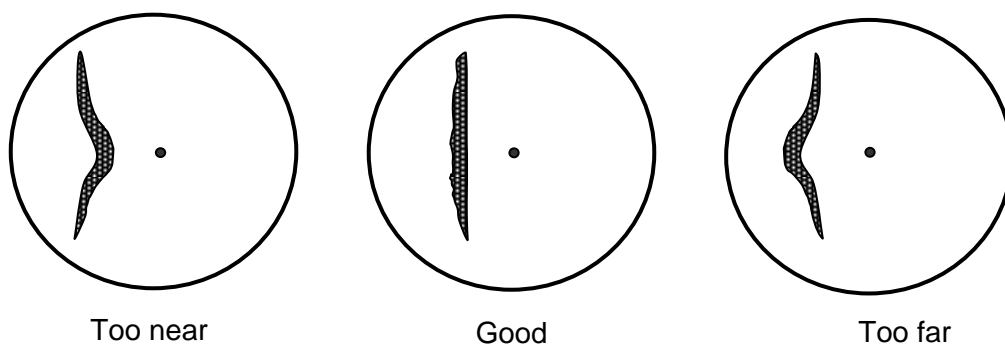

Figure 4.1 Picture display of Trigger Adjustment
- (3) Move the joystick up or down to adjust the value to get a straight picture of the straight object in the display as shown in Figure 4.1.
- (4) Press **[ENT]** key to save the adjustment result.